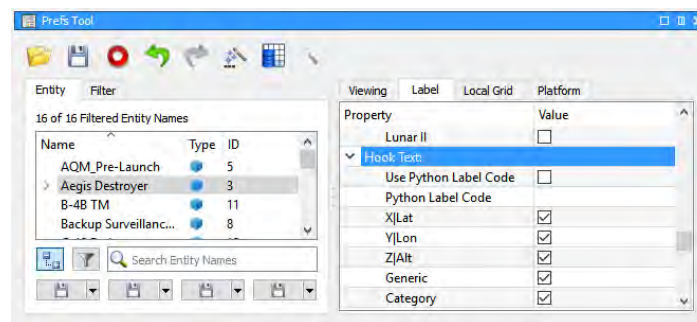

Figure 5.93: Hook Text in Label Tab
4. Click the **Label** tab and scroll down to the **Hook Text:** property, as shown in Figure 5.93